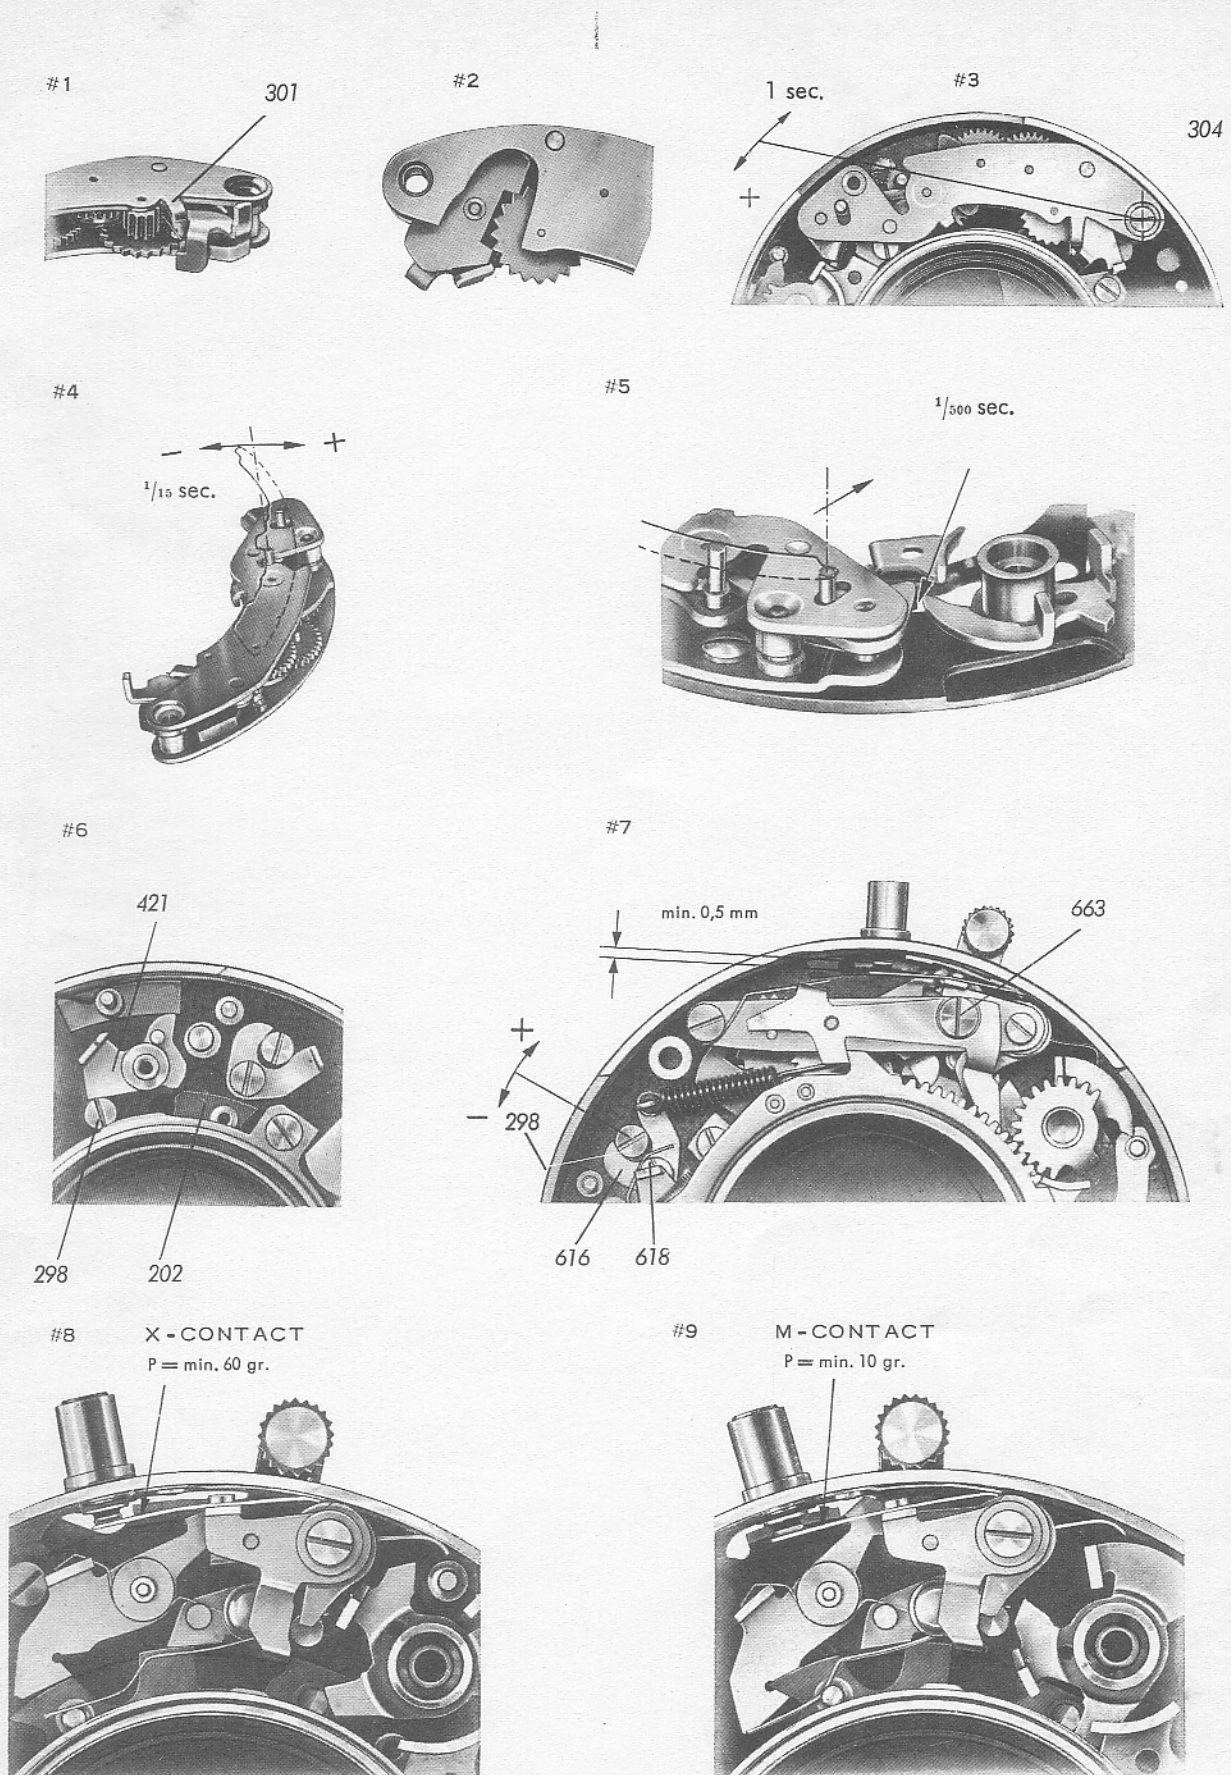

Figure 5-3
- E. ESCAPEMENT 300: The depth of engagement of the escapement lever is factory adjusted so with the lever plate 319 resting against adjusting lug of plate 301, it amounts to 1/2 to 1/3 of the height of the tooth. See Figure 5-3, #1 and #2.
1. 1-Second (See Figure 5-3, #3). Back off the two securing screws and pivot the escapement about screw 304 on the lever side (toward the mounting tube for increased exposure time, or toward the periphery of the case for shorter exposure time). Firmly tighten the two securing screws upon completion of adjustment.
2. 1/15 Second (See Figure 5-3, #4). With cam ring 552 in position, bend the detent pin as required (toward tubular mount for shorter exposure, and toward the periphery of the case for longer exposure).
3. 1/500 Second (See Figure 5-3, #5). The cam ring should render escapement lever 341 inoperative to such an extent that drive 514 can run down without any obstruction. For this purpose, the pin of the check lever should be bent as required.
Stop 298 for the V-detent lever 421 is in the form of an eccentric, thus permitting the play to be adjusted between the V-detent lever and blade ring 202 (Figure 5-3, #6). The play should be such that, with the self-timer out of operation, the blade ring can run down freely; the self-timer, when used, will run for no more than one second after the shutter is released.
The minimum contact gap with the shutter cocked should be 0.5 mm (0.020"). In the case of Synchro-Compur, measure the contact gap in the M position. See Figure 5-3, #7.